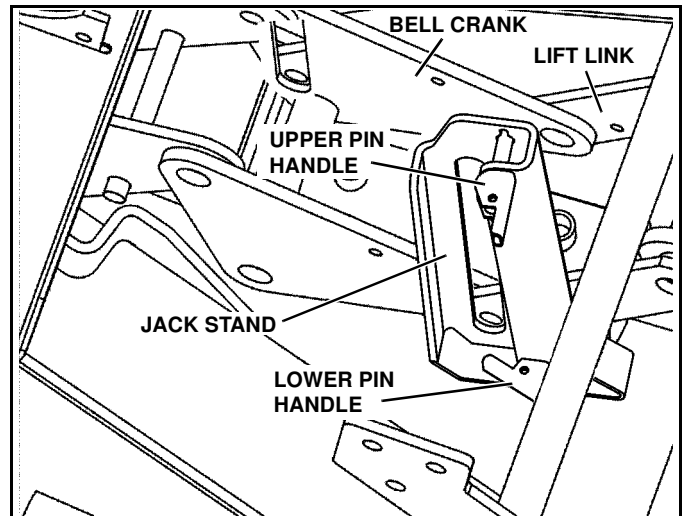

Figure 1-17
6. Disengage both jack stand pins by pulling on handles. Raise the jack stand and engage the bottom pin by pushing on the handle. Make sure pin is engaged in hole by rotating jack stand back and forth. (See Figure 1-17).